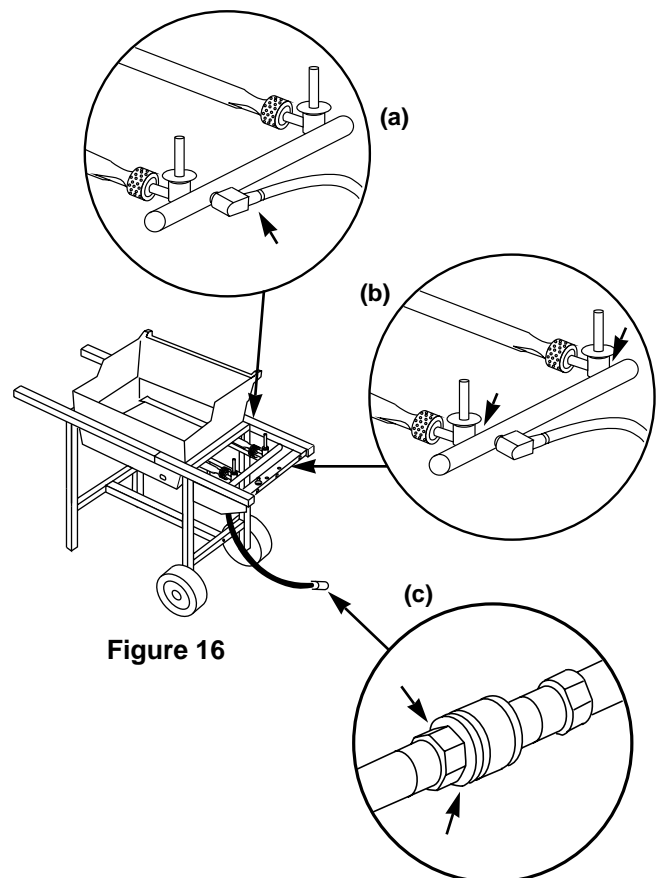

Figure 16
a) Hose to manifold connection. Figure 16 (a).
**⚠WARNING:** If there is a leak at the hose to manifold connection, Figure 16 (a), retighten the hose fitting with a wrench and recheck for leaks with soap and water solution.
b) Valves to manifold connections. Figure 16 (b).
c) The hose to quick disconnect connection. Figure 16 (c).